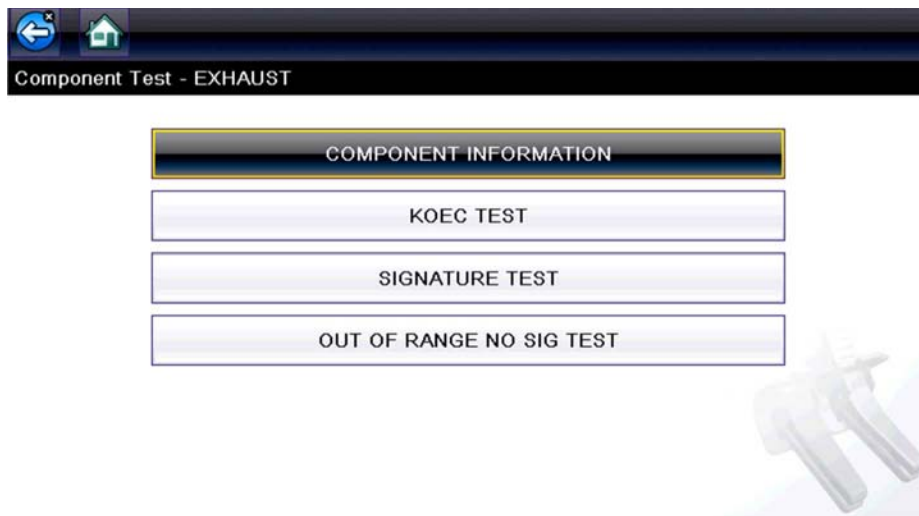

Figure 4-8 Component Tests Menu
2. Select **Component Information** from the Component Test menu (Figure 4-8).